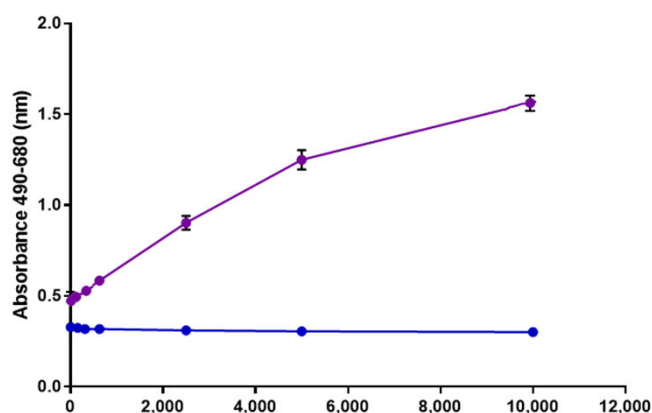

Figure 2 Graph of LDH activity vs. A549 cell number
12. Plot the Maximum LDH Release Control absorbance value minus the Spontaneous LDH Release Control absorbance value versus cell number to determine the linear range of the LDH cytotoxicity assay and the optimal number of cells (Figure 2).